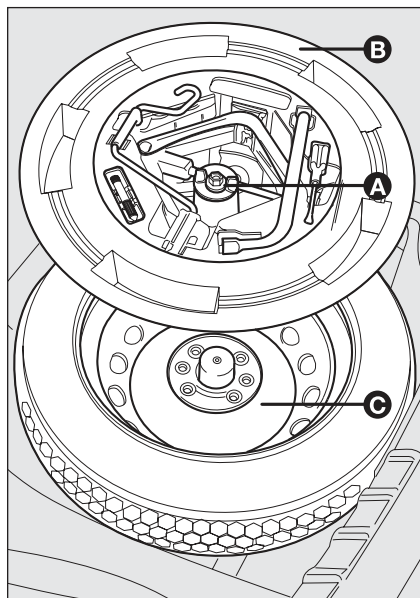

fig. 10
- Loosen the clamping device **A-fig. 10**;
- Take out the tool container **B-fig. 10** and take it near to the wheel to be changed;
- Take the spare wheel **C-fig. 10**;